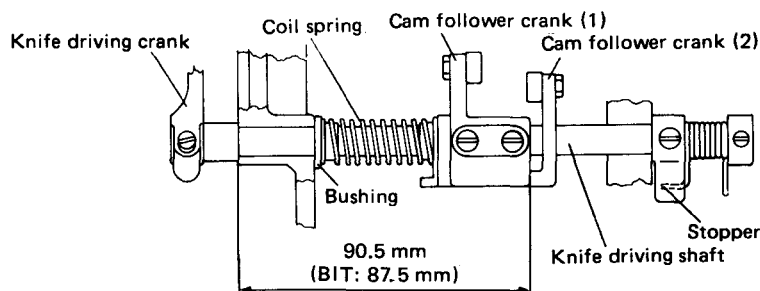
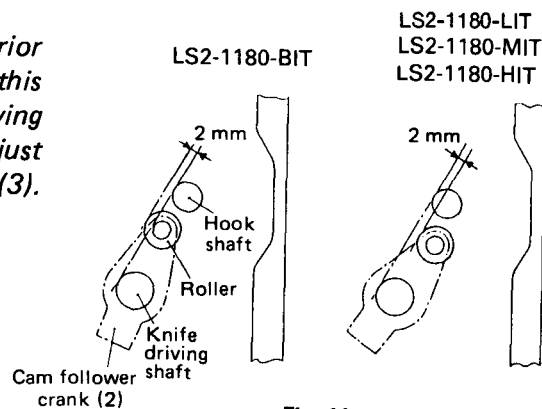
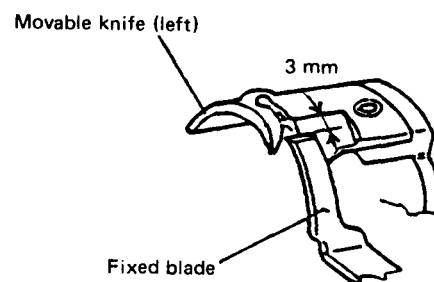

Fig. 7
Fig. 11
Fig. 14
(1) Fig. 7 shows the standard setting position.
(2) During assembling, be sure to pass the knife driving shaft through the knife driving crank first.
(3) Fix the cam follower crank (1) to the recess of knife driving shaft at the position shown in Fig. 7.
(4) Fix the stopper to the recess so that the knife driving shaft can rotate smoothly without play in the axial direction.
Note: The standard position of cam follower crank (2) prior to the operation is shown in Fig. 11. When this position has been changed, for example, by removing the stopper plate, make adjustment with the adjust screw (Fig. 7) and then make adjustment in (1) to (3).
(3) Adjustment of knife engagement pressure
- ① The standard knife engaging pressure is obtained when the movable knife (left) and fixed blade start making contact with each other at the position shown in Fig. 14.
- ② When cutting action is poor especially because of thick thread, a slight increase of the engagement pressure produces an effect.
- ③ To adjust the engagement pressure, loosen the lock nut (B) in Fig. 11 and adjust with the adjust screw (A).